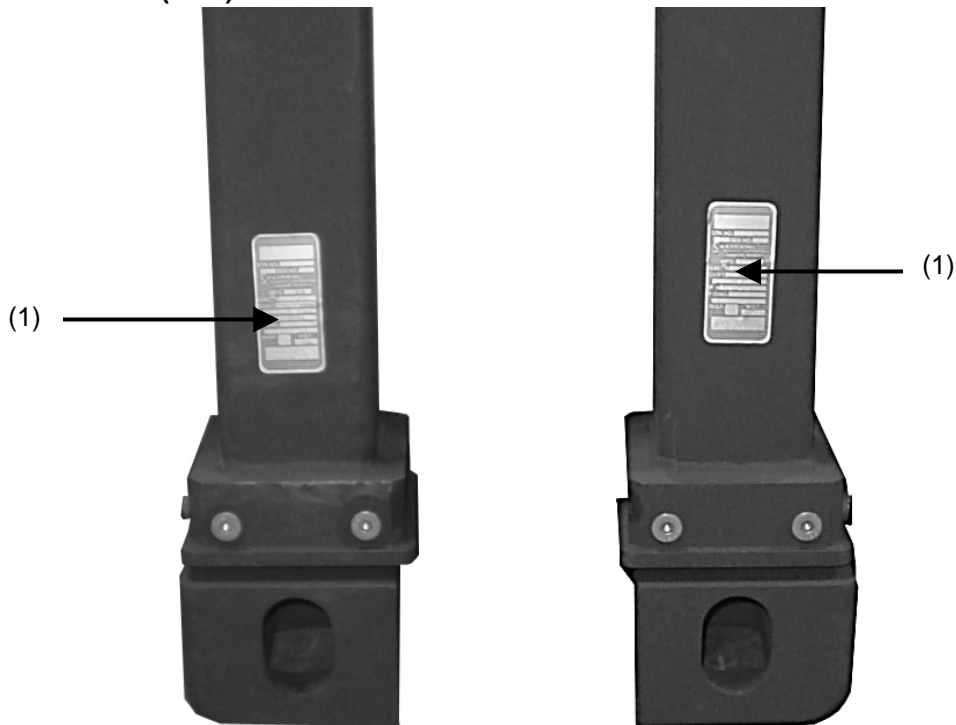

Figure 4-64. LH and RH lift jack assemblies.
- Ensure you have the correct jack (LH, RH) by checking part number on identification plate (1) (Fig. 4-64). RH jack is PN 58300209. LH jack is PN 58300208.